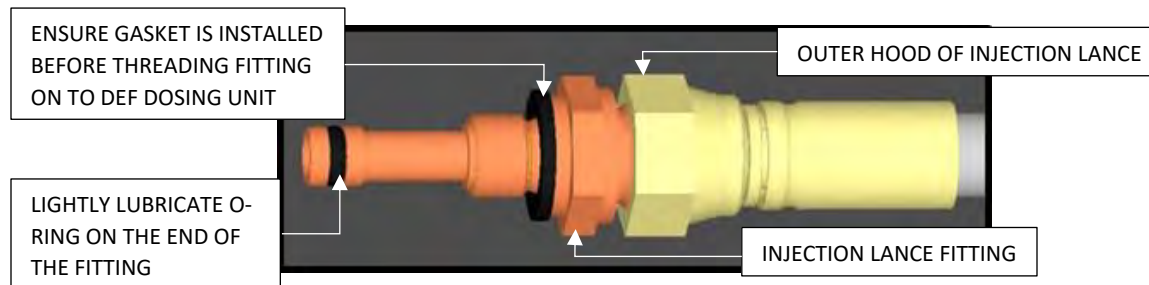

Figure 7: Injection Lance Fitting with O-Ring and Gasket
- i. Ensure the Gasket is installed on the end of the Injection Lance Fitting and lightly lubricate the O-Ring on the tip of the Injection Lance Fitting with a general purpose lubricant such as WD-40 (Figure 7).